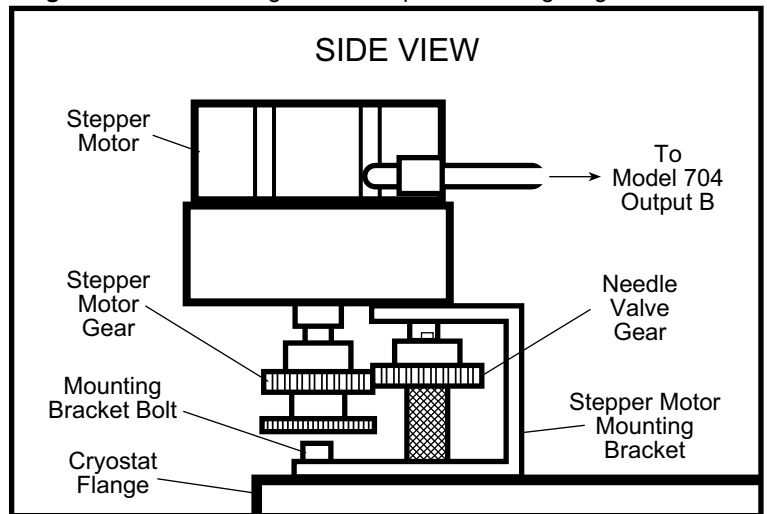

Figure 3-12 Installing the Sample Inlet Valve Stepper Motor
21. Verify the Needle Valve is securely tightened, then install the Sample Inlet Valve Stepper Motor. Viewing the magnet dewar from the front, the Stepper Motor Mounting Bracket installs behind and to the right of the Needle Valve. The teeth of the Stepper Motor Gear engage the front of the Needle Valve Gear (Figure 3-12).